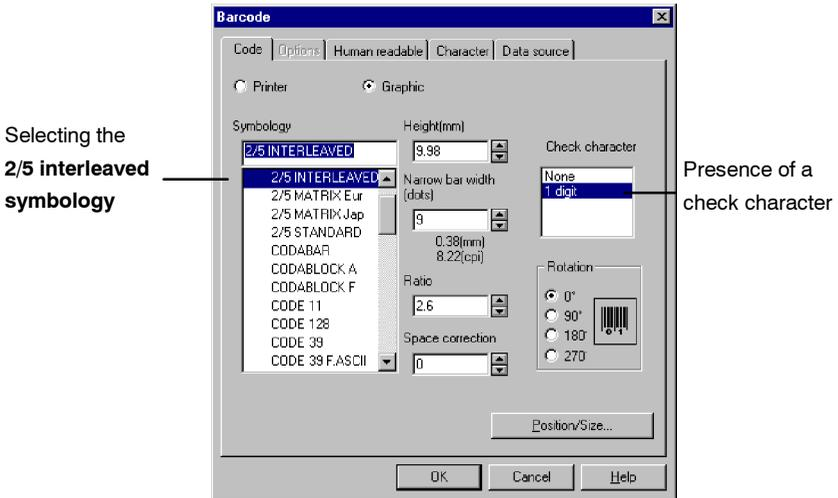

Figure 21 The **Barcode** dialog box
The **Barcode** dialog box appears (see **Figure 21** below).
- 3 Configure the dialog box so that it looks like **Figure 21**.